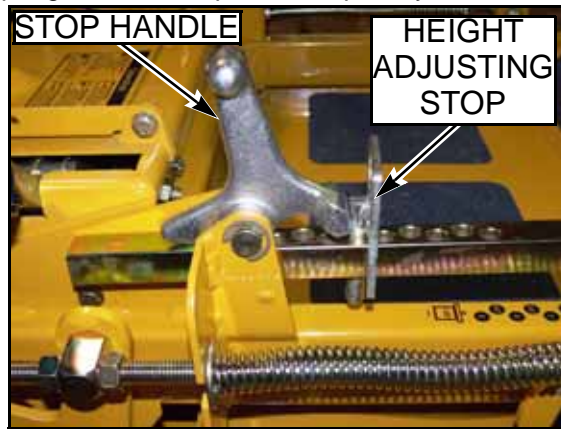

FIG. 61
4. Set cutting height at 3-1/2" in the height indicator by placing the height adjusting stop in the 3-1/2" hole, and turning the height stop so that the pin side is against the stop handle "FIG. 61"
5. Clamp the height adjusting stop against the stop handle "FIG. 61". This will assure that the height will not move during the setting process. Otherwise, spring pressure from the deck lift springs will tend to pull the stop away from the handle.